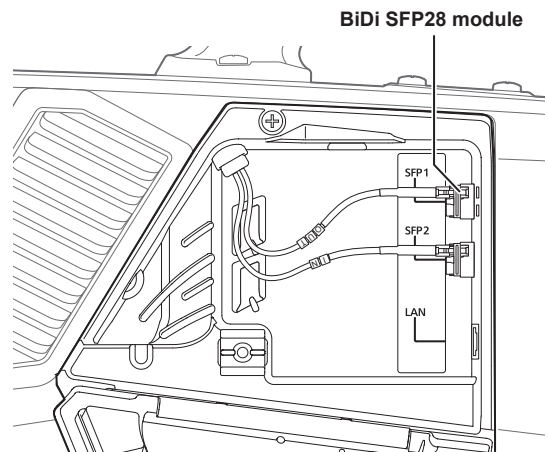

Fig. 2
- 6 Insert the optical fiber cables into each of the BiDi SFP28 modules. (Fig. 2)